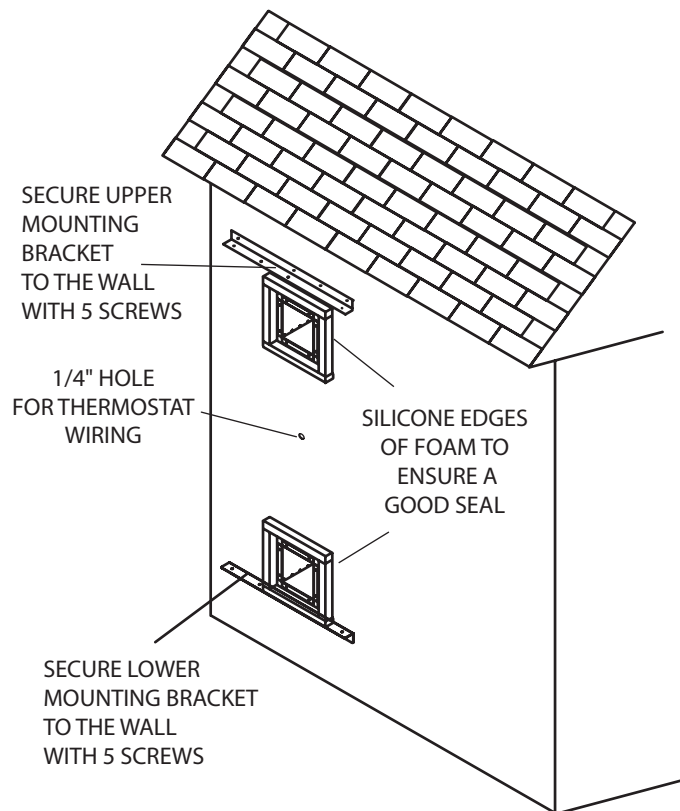

Figure 18. Securing upper and lower mounting brackets and siliconing the edges of the foam.
j. Install the upper and lower wall mounting brackets on the exterior wall for the collector. Secure the bracket with the lag screws provided as shown in Figure 18. Silicone around the outer edges of the foam to ensure that joints the inlet and outlet holes are sealed when the collector is mounted in place.